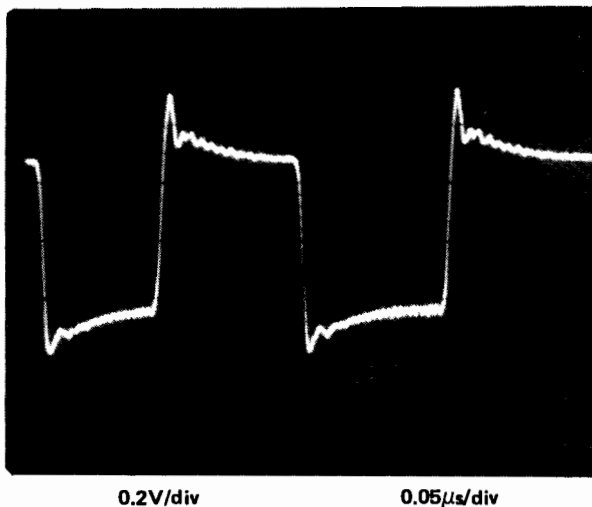

Figure G1-2 Start of Waveform of Transmit Frame
8. Compare the waveform on the oscilloscope to Figure G1-2.